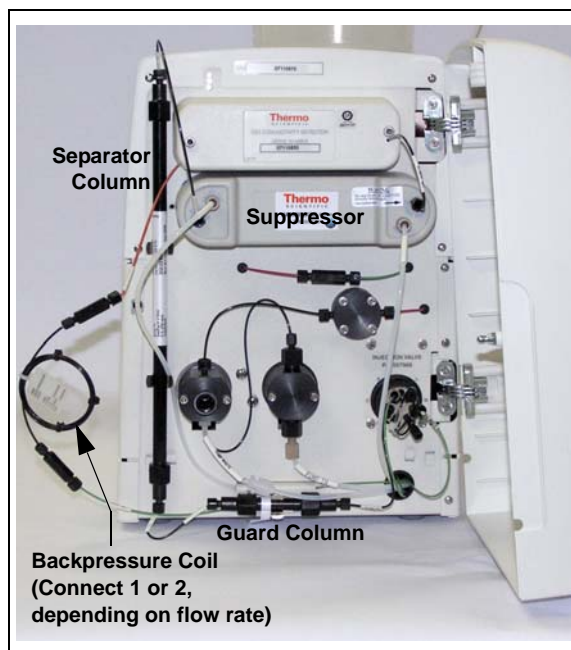

Figure 32. Dionex ICS-900 with columns and suppressor
1. Push the guard column onto the clips (see Figure 32).
2. Push the separator column onto the clips (see Figure 32).
Connect backpressure coils between the conductivity cell outlet and the regenerant bottle inlet (see Figure 32).